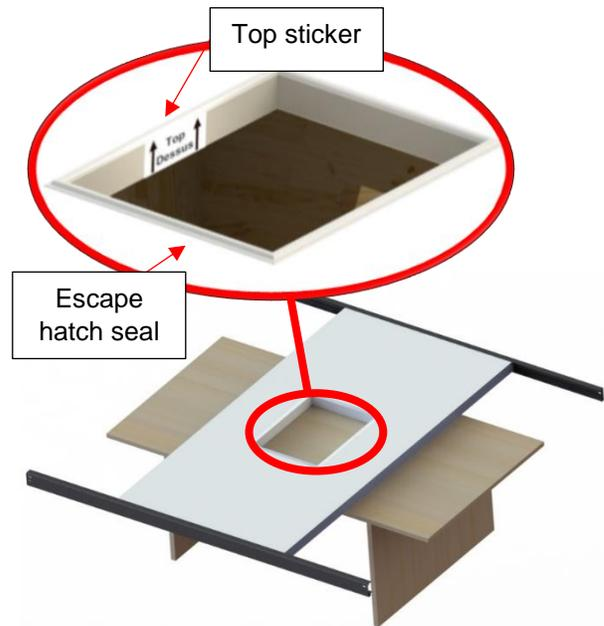

Figure 47
- 5) Place the escape hatch panel onto the middle of the installation surface. **Ensure the seal around the escape hatch opening is on top and the top sticker is properly oriented** (Figure 47)
- 6) Assemble the long C-Channels, 94 9/16 in. (240 cm), over the panel previously placed on the installation surface. (Figure 47)